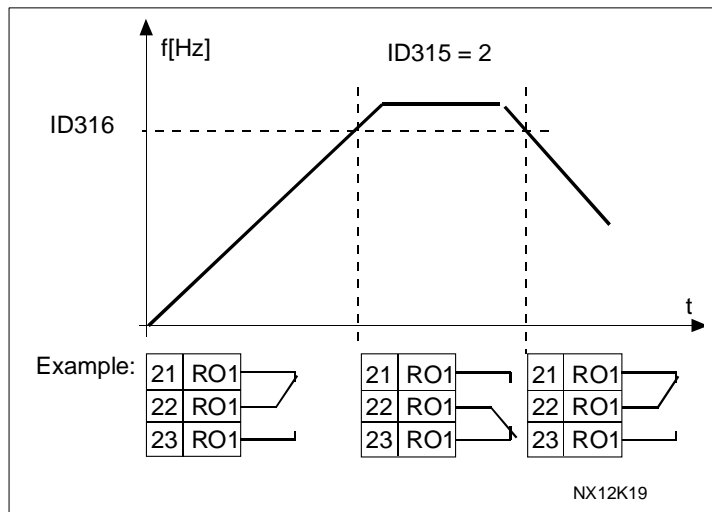

Figure 7-10. Output frequency supervision
Selects the frequency value supervised by parameter ID315. See Figure 7-10.
- Selects the frequency value supervised by parameter ID346. See Figure 7-10.